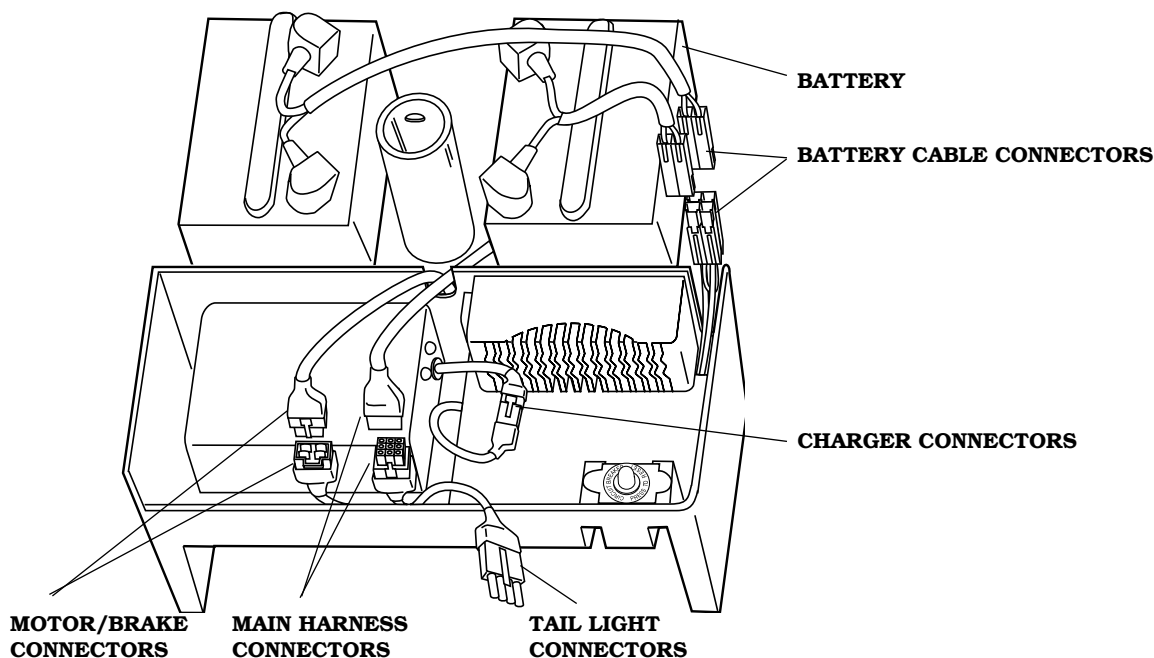

FIGURE 17. BATTERY DISCONNECTION
2. Disconnect the main harness connector from the electrical enclosure. See figure 17.
NOTE: The motor and the brake connectors (see figure 17) should be disconnected only if you are going to remove the rear electronics enclosure. If is not necessary to remove the charger connector while removing the rear electronics enclosure.